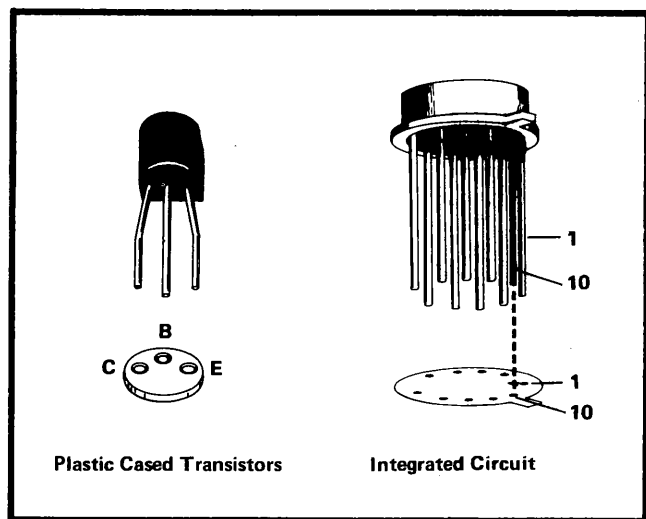

Fig. 4-4. Electrode configuration for socket mounted transistors and IC's.
Transistor and Integrated Circuit Electrode Configurations. Lead identification for the transistors, MOS FET's, and IC's are shown in Fig. 4-4.
- d. Be sure the component (transistor or IC) is inserted properly in the socket (see Fig. 4-4).
Integrated circuits are most easily checked by direct replacement. When substitution is impossible, check input and output signal states as described in the circuit description and on the diagram. Lead configuration for the IC used in this instrument is provided by Fig. 4-4.